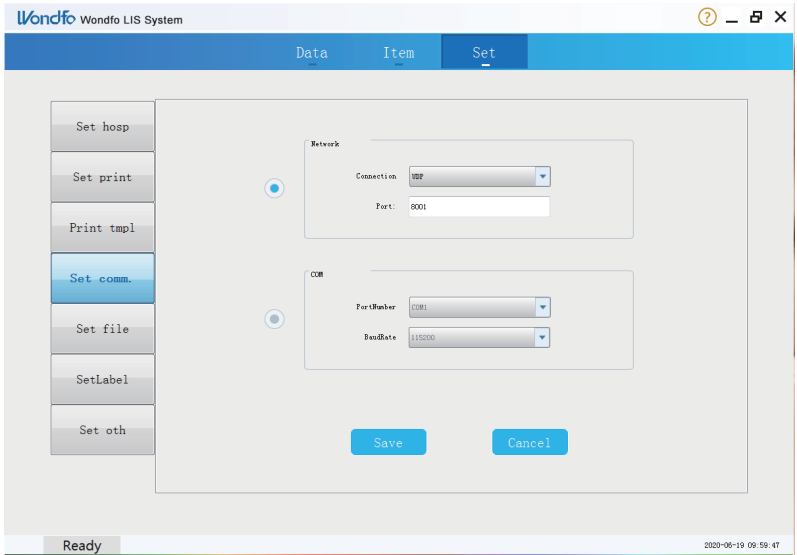

Fig. 7.9
- 3) Open the LIS software in the computer, and set up the port NO. and communication mode, and then click “Save” to keep the setting, refer to **Fig. 7.9**.